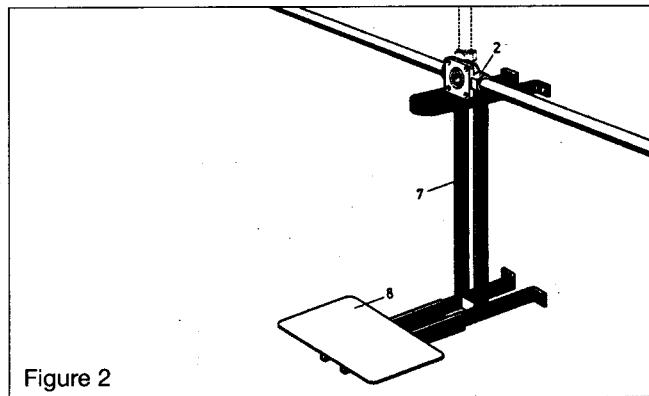

Figure 2
Mount the wall mounting (7) centered and directly **adjacent** below the Quickset-E rotary flange (2) so that it is supported by the wall mounting. The complete weight of the softener (max. 85 kg/187 pds), then rest on the wall mounting (Figure 2).
4.1 Slide supporting plate (8) onto the struds of the wall mounting (Figure 2).